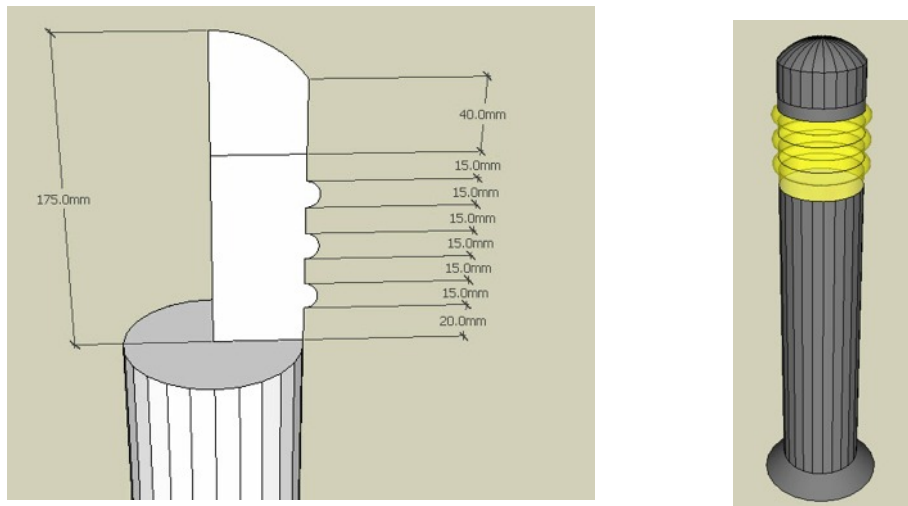

Figure 91. Dimensions for the upper portion of the low streetlight
- Using the same process as for creating the bollard, create the small streetlight with the same dimensions for the lower portion and using the dimensions shown in Figure 91 for the upper portion.
- When completed use the **Paint Bucket** to apply the material 'Translucent Glass Gold' to the light lens and a solid grey shade to the remainder of the column as shown in Figure 91.